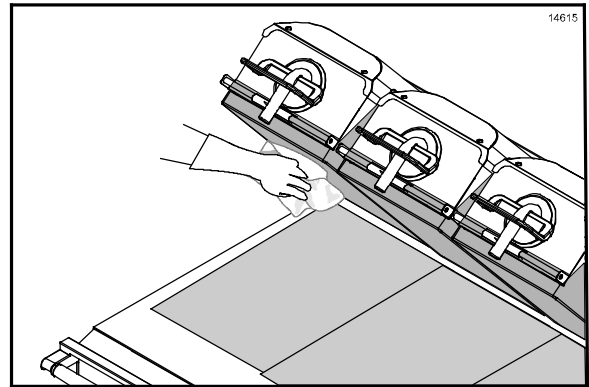

Figure 44
11. Use the grill cloth dampened with grill cleaner to clean the exposed surfaces of the upper and lower release sheets. (See Figure 44.)